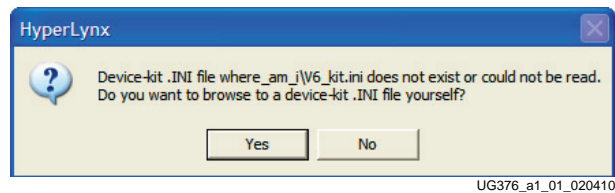

Figure A-1: Device-kit .INI Error Message
1. What does the “Device-kit .INI file where\_am\_i\V6\_kit.ini does not exist or cannot be read” message shown in Figure A-1 mean?